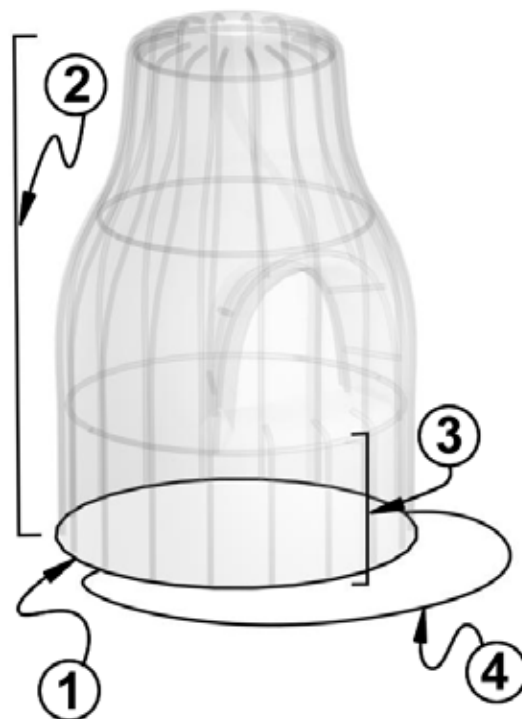

Figure 1 - El Patio Fireplace Dimensions
1. Make sure the El Patio will fit in the space allotted. The size of your Kiva Fireplace is based on Face Frame. Please refer to **Chart A - Fireplace Clearance Requirements** and *figure 1 - El Patio Fireplace Dimensions*.